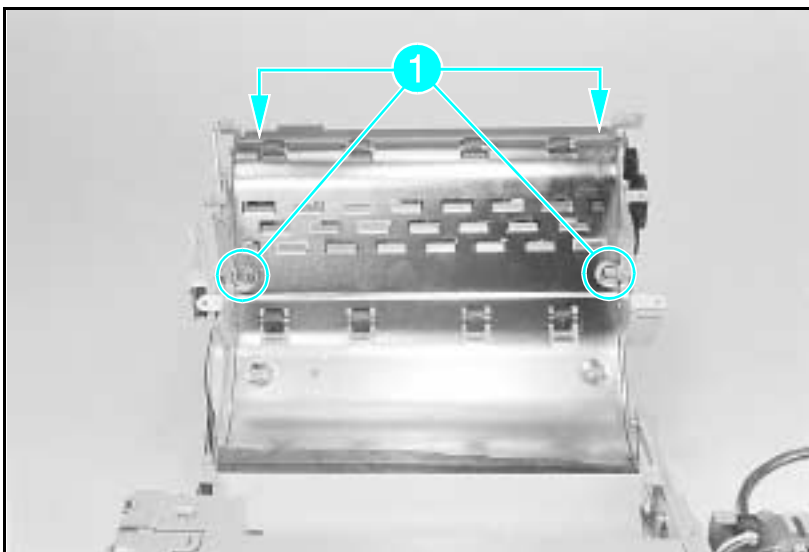

Figure A-14 Upper Paper Guide Sheet Metal
- 4** Remove the (4) screws on top of the sheet metal part of the upper paper guide shown in Figure A-14, callout 1.